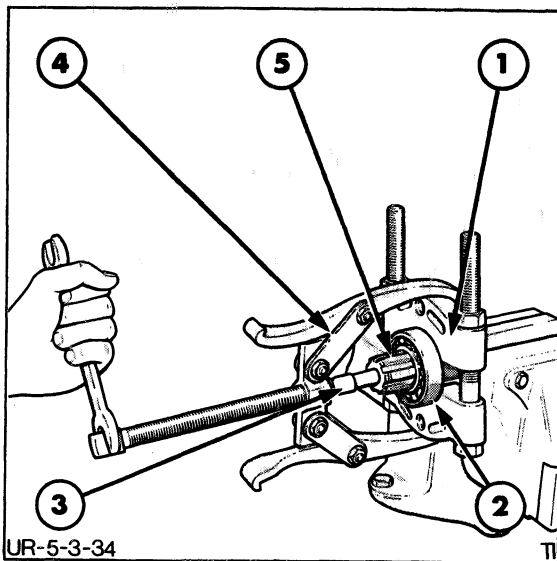

FIGURE 4-239
1. Inspect the PTO countershaft rear bearing for wear or damage. If necessary, remove the bearing, as shown in Figure 4-239.